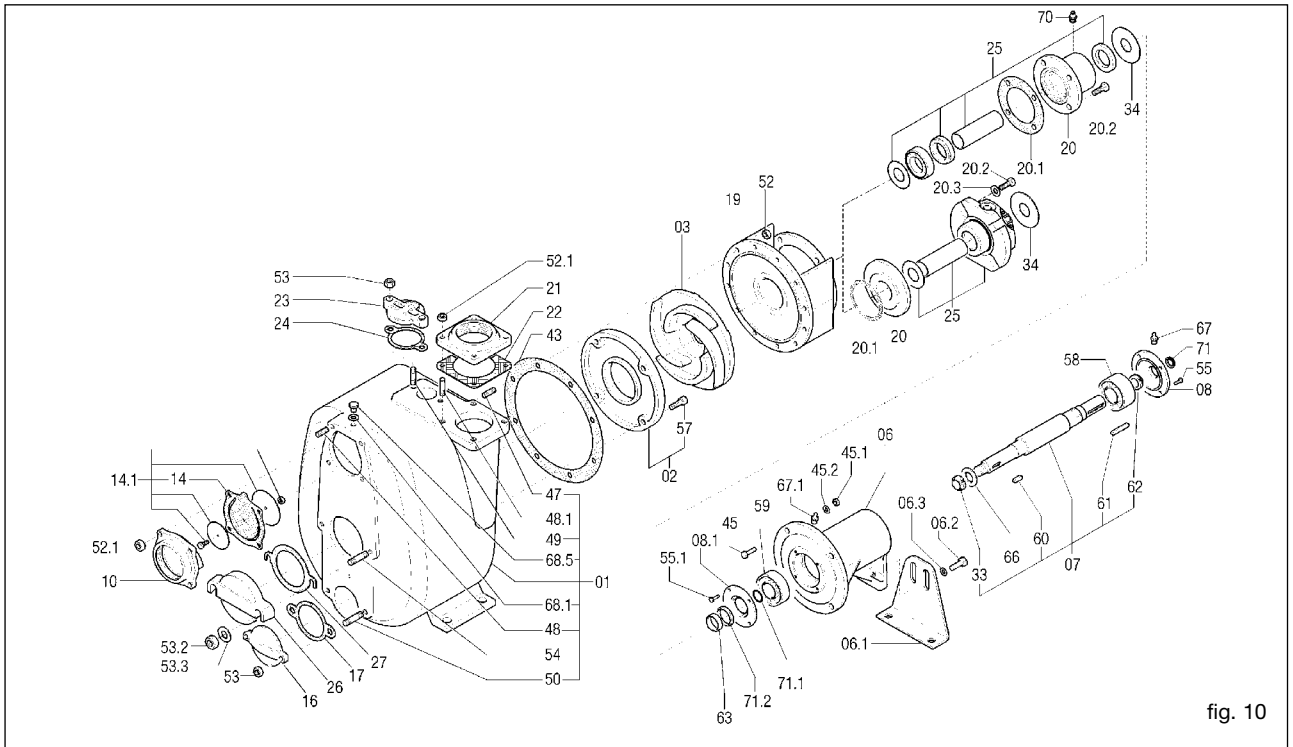

fig. 10
The suction line must have a diameter equal to that of the pump suction port (for diameters greater than that of the pump port, consult Varisco). If possible, avoid curves, elbows and constrictions which can limit the flow of liquid to the pump. Do not install a foot valve: the pump has a non return valve (14) incorporated in the suction port (fig. 10).
An exploded view drawing is provided as an example (fig. 10).
13.2 Replacing the impeller (fig. 10)
- Unscrew the nuts (52) and remove the pump casing, taking care not to damage the casing gasket (43)
- Block the impeller (03) and unscrew the self-locking impeller nut (33)
- If necessary, replace the casing gasket (43)
13.3 Replacing the wear plate (fig. 10)
- Unscrew the wear plate screws (57)
- Remove and replace the wear plate (02)
13.4 Replacing the check valve (fig. 10)
13.5 Replacing the mechanical seal type 1 - 2 - 3 (figs. 10, 11, 12)
- Remove the nuts (52) and remove the casing (01).
- Block the impeller (03) and remove the self-locking impeller nut (33)
- Remove the head (19). The rotating part of the seal (40) mounted on the shaft sleeve (31) will slide off the shaft together with the head
- Remove the stationary seal (39) and its gasket (38) from the head
- Remove the lip seal (41)
- Tighten the head screws (45) and nuts (45.1)
- Smear the gasket of the rotating seal seat (40) and the shaft sleeve (31) with oil and slip the seal on to one end of the shaft sleeve
- Mount the seal support ring (25.1). Push this forward until it is possible to reassemble the impeller key (60)
- Reassemble the impeller (03), the impeller washer (66) and tighten the impeller nut (33)
- Reassemble the casing gasket (43) after smearing both sides with grease
13.6 Replacing type 4 - 5 cartridge seals (fig. 10, 13, 14, 15, 16)
- Unscrew the nuts (52) (fig. 10) and remove the pump casing, taking care not to damage the casing gasket (43)
- In all models, the distance between the top of the impeller blades and the surface of the wear plate must be between 0.3 - 0.6 mm (fig. 19). For the 12" model, the distance between the impeller and the front and rear wear plates must be between 0.6 - 1 mm (fig. 22). To achieve this, dimensions A and B in figs. 17, 18, 20, 21 must be as nearly as possible equal. To this end, use the shims (25.2) (fig. 11) supplied with spare mechanical seals. These shims are used to move the impeller further forward if it is too far from the front wear plate or too near the rear wear plate. The shims should be mounted between the seal support ring (25.1) (fig. 11) and the impeller. Further adjustments can be carried out using casing gaskets (and rear wear plate gaskets on models which fit these). The presence of the casing gasket (43) (fig. 10) 0.5 mm thick then creates the correct distance (fig. 19).
13.8 Maintenance of the bearings (fig. 10)